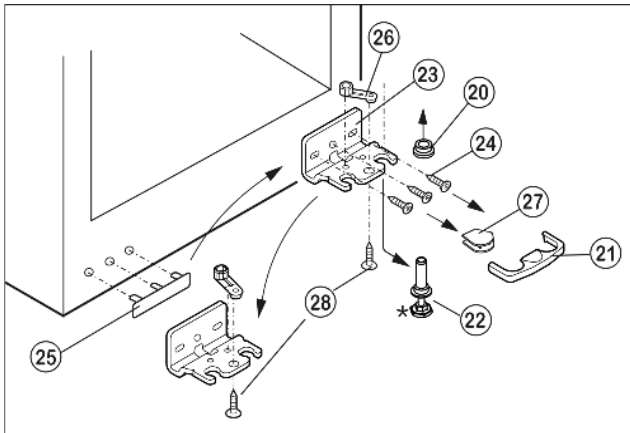

Fig. 6
- ▶ Draw the safety lock Fig. 6 (21).
- ▶ Remove the cover Fig. 6 (27).\*
- ▶ Fully retract the adjustable-height foot Fig. 6 (22).
- ▶ Pull out the bearing pin Fig. 6 (22) downwards and forwards. In so doing, pay attention to the hinge bush Fig. 6 (20).
- ▶ Unscrew the turn hinge Fig. 6 (23) (3 Torx 25) Fig. 6 (24).
- ▶ Unscrew the bearing part Fig. 6 (26) (1 Torx 25), Fig. 6 (28).
- ▶ Carefully lift off and transfer the cover Fig. 6 (25) on the handle side.
- ▶ Screw the turn hinge Fig. 6 (23) firmly into place on the new hinge side, possibly using a cordless screwdriver (with 4 Nm).
- ▶ Place the cover Fig. 6 (27) on the opposite side.\*
- ▶ The safety lock (21) has to engage with the turn hinge at the side so that the bearing pin and therefore the door are secured.
- ▶ Snap the safety lock (21) onto the turn hinge again.
- ▶ Put on the hinge bush Fig. 6 (20).
- ▶ Place the lower door from above onto the lower bearing pin Fig. 6 (22).
- ▶ If necessary, align the doors to the appliance housing by way of the two oblong holes in the lower turn hinge Fig. 6 (23) and middle turn hinge Fig. 5 (13). To do so, unscrew the middle screw in the lower turn hinge Fig. 6 (23).